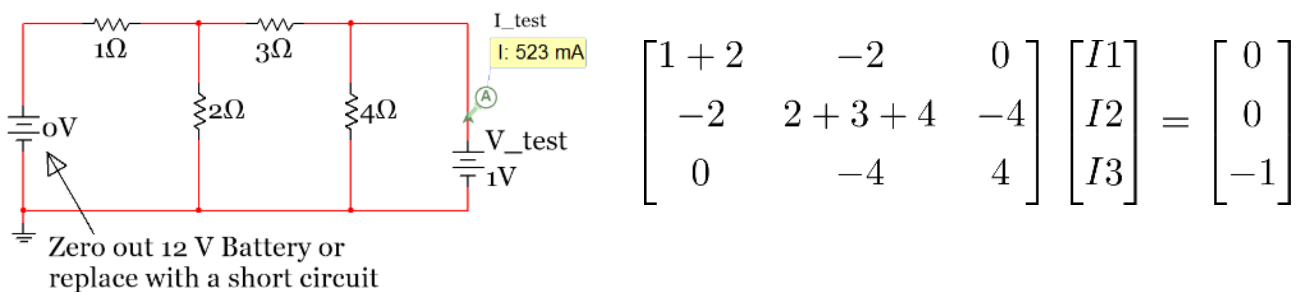

Figure 2.63: Sub-Problem 2 - I_{Test} Calculation – Used in Method 3 to determine $R_{th} = V_{Test}/I_{Test}$
- Using the Mesh Matrix in Figure 2.63 I_{Test} is calculated to be 523 mA. **$R_{th} = 1V/.523A = 1.913 \Omega$**